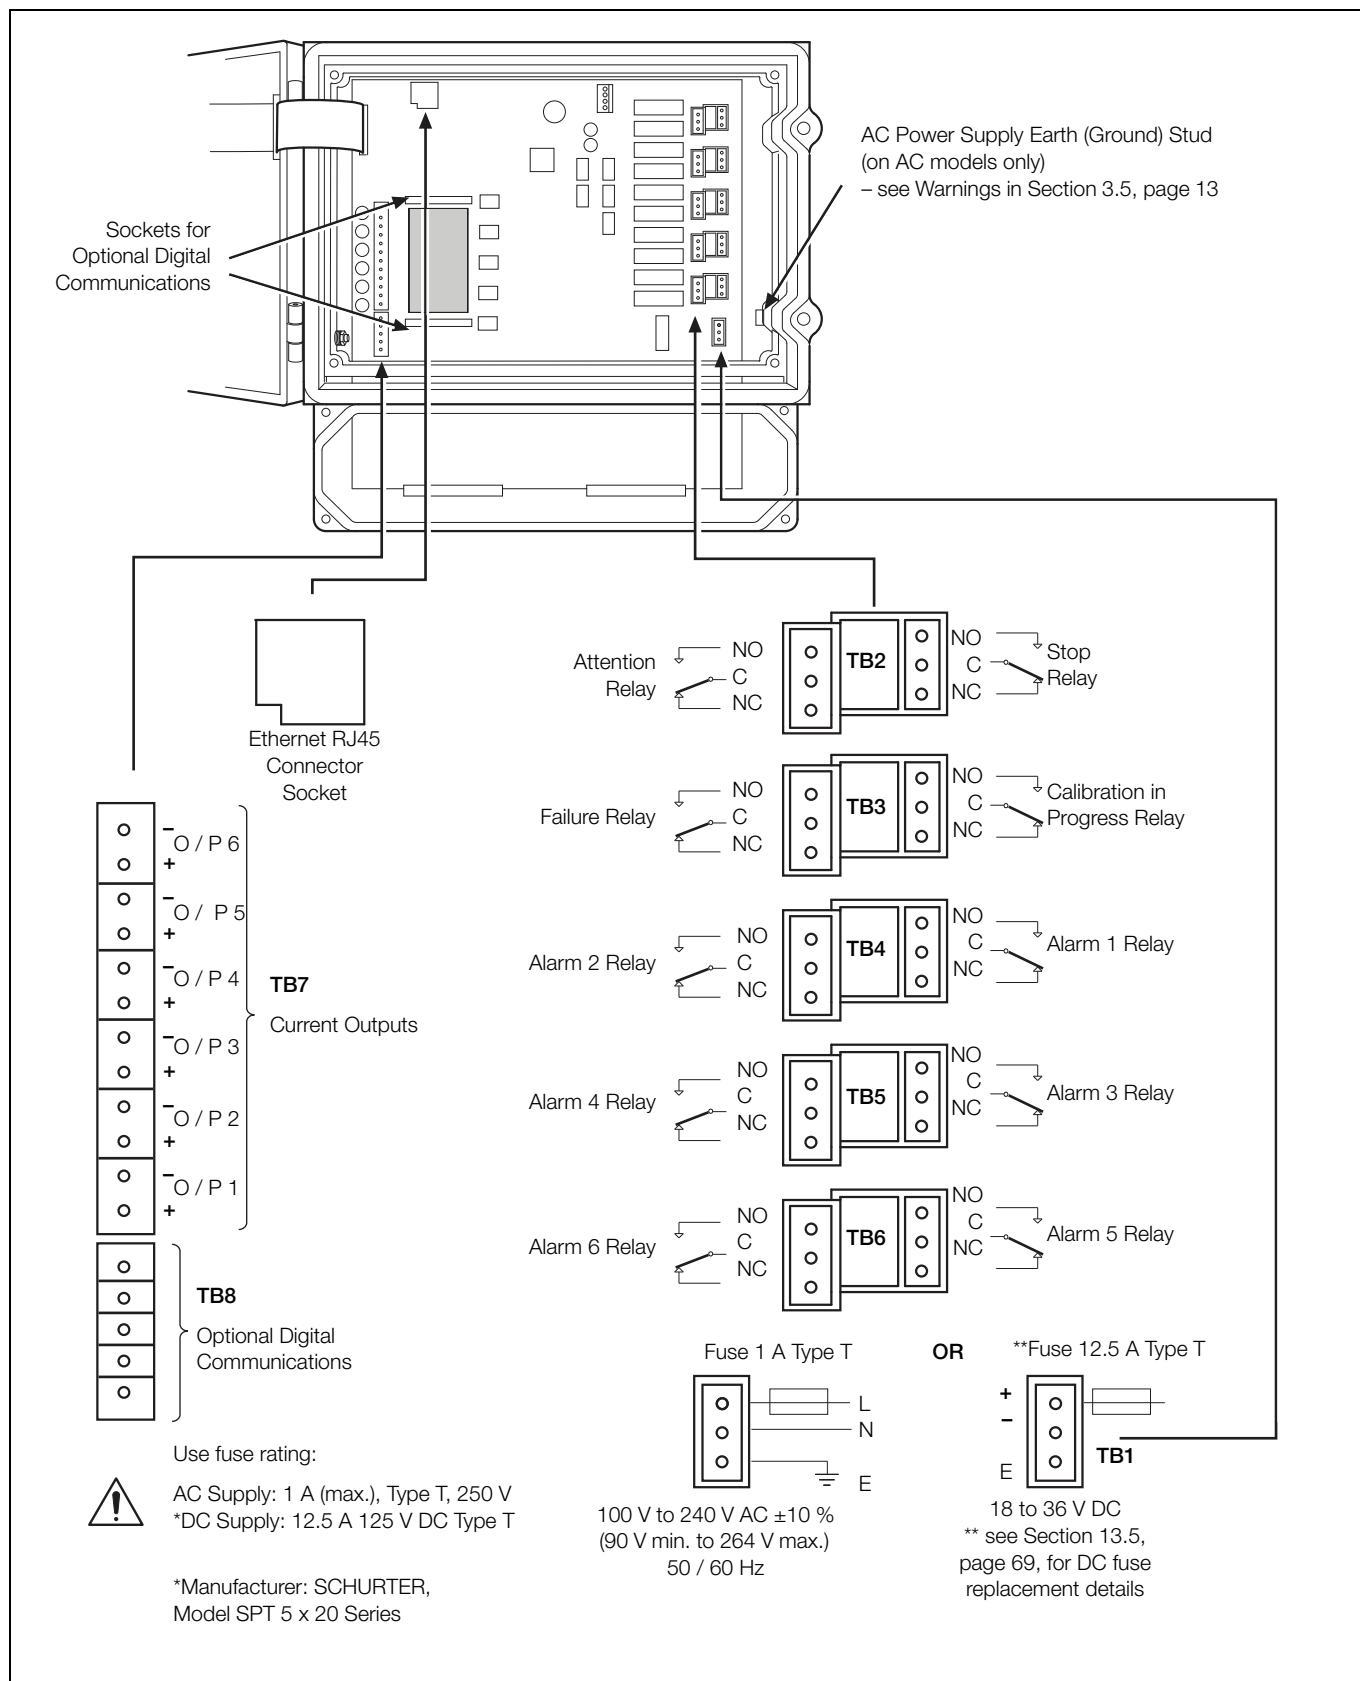
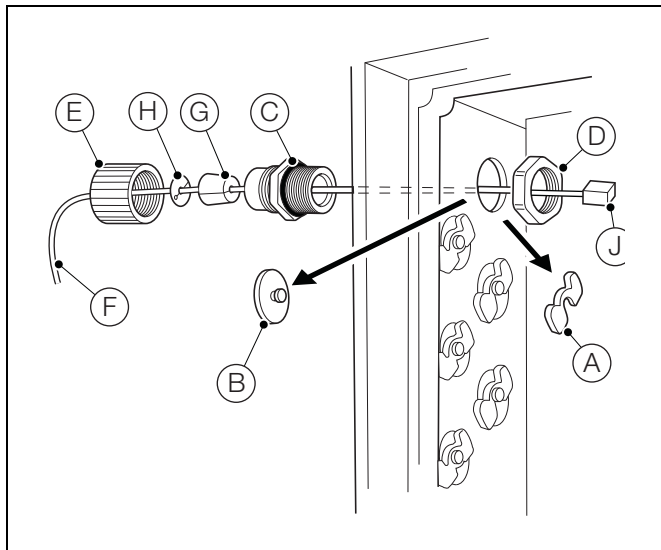

Fig. 3.5 Connections Overview
Fig. 3.7 Ethernet Connections
- Ensure the correct fuses are fitted – see Fig. 3.5, page 14 for fuse details.
- Application board connection terminal blocks TB1 to TB8 are identified in Fig. 3.5 on page 14.
7. Remove terminal block connection plug (K) and, using a small flat-bladed screwdriver, make connections to the plug. Ensure wires are connected to the correct terminals – see Fig. 3.5, page 14.
9. Tighten gland nut (H).
12. Refit transparent cover plate (C) and secure using 4 screws (B). Close the door to the electronics section and turn door retaining screws (A) $\frac{1}{4}$ turn clockwise to secure.
2. Referring to Fig. 3.7:
- a. Slide retaining clip (A) off blanking plug (B) and remove the blanking plug.
- b. Fit cable gland (C) and secure using nut (D).
- c. Remove gland cover (E) and route cable (F) through it.
- d. Fit the rubber split-bush (G) and split-washer (H) over the cable.
- e. Route the cable through cable gland (C) and into the enclosure case.
- f. Plug the RJ45 connector (J) into the Ethernet RJ45 connector socket on the application board (see Fig. 3.5, page 14 for location details) and tighten gland nut (E).